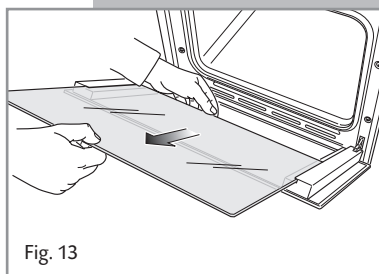

Fig. 13
- Gently pull out the inner pane of glass (Fig. 13).